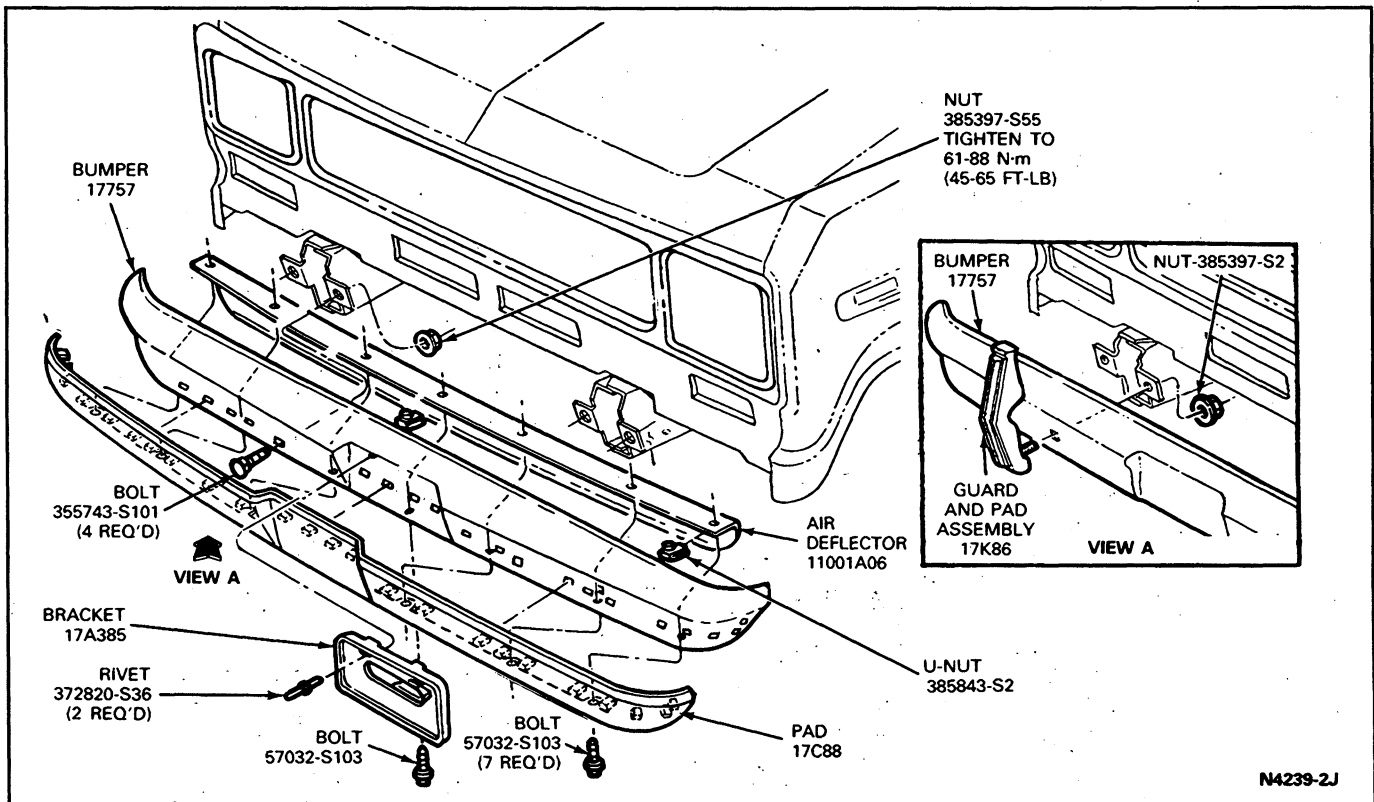

FIG. 3 Front Bumper and Bumper Guards
1. Remove the front bumper as outlined (Fig. 3).
4. Install the bumper assembly as outlined (Fig. 3).
1. Remove license plate bracket and bumper pad as outlined (Fig. 3).